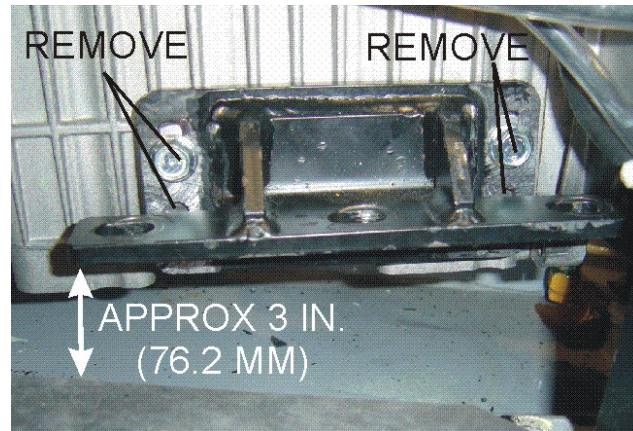

Figure 13. Engine Mounting Bolts (Engine)
16. There are eight 10 mm bolts (4 per side) that secure the engine mounting bracket to the engine (Figure 13). Using a 15 mm socket remove and discard these bolts.